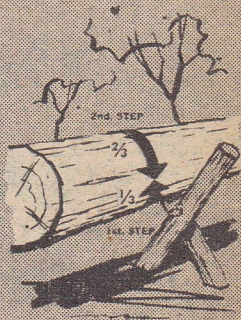

FIGURE 18
3. To cut end section of log suspended above ground (Figure 18) reverse the cutting sequence. First undercut about $\frac{1}{3}$ through, then finish the cut from the top down.